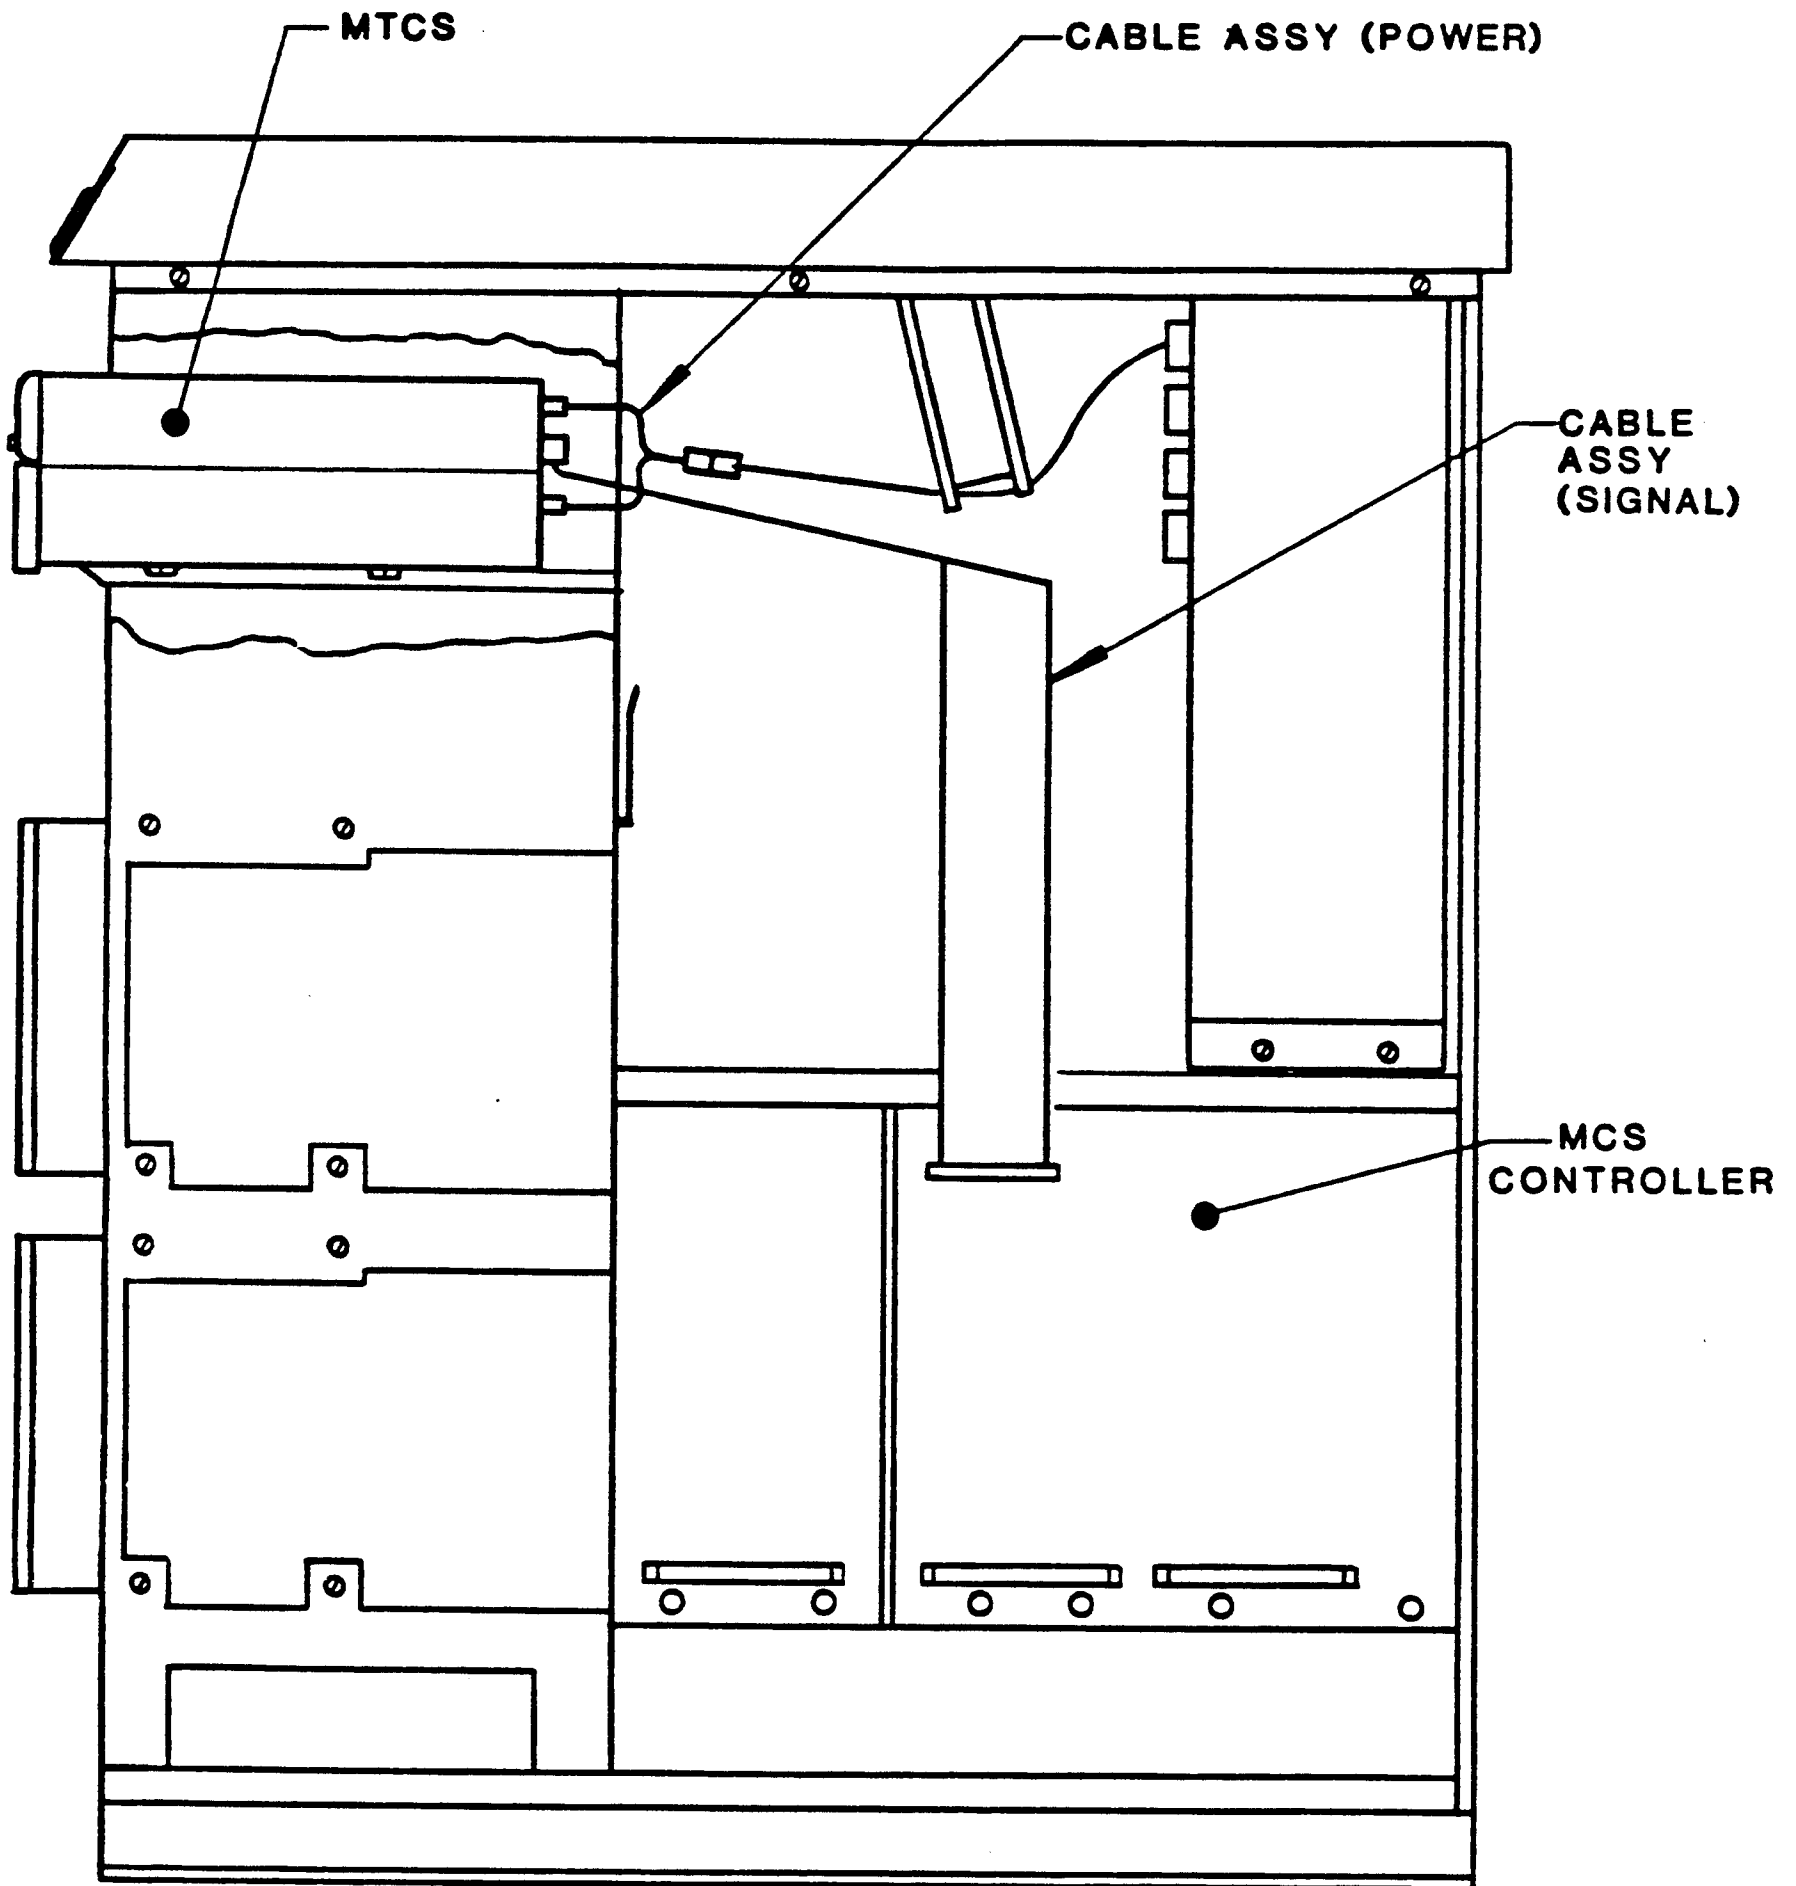

Figure 3-1. MTCS Installation into MAI 3000 CCA
10. Mount the MTCS to the CCA (Central Cabinet Assembly) chassis (refer to Figure 3-1).
11. Install and route the 916024-001 bus cable assembly between the MTCS and the MCS controller (refer to Figure 3-1).